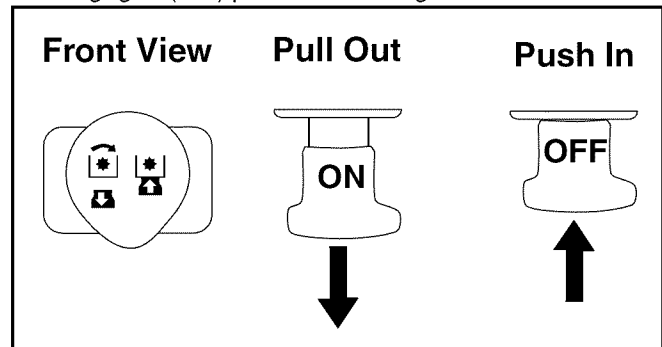

Figure 9
- Pull the PTO (Blade Engage) knob outward into the engaged (ON) position. See Figure 9.